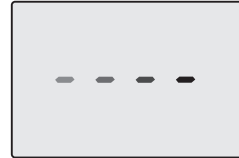
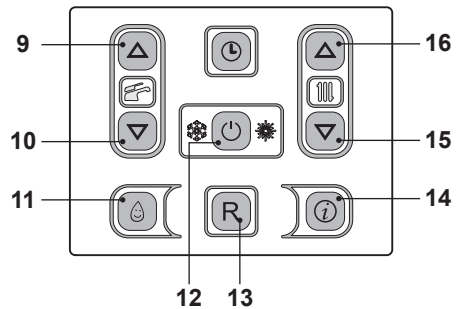

Fig. 7.4
Fig. 7.5
- Electrically power the boiler by switching on the double pole isolation switch. The LCD will display, the - - - - symbol (Fig. 7.4).
- Press the 12 key for 2 seconds until both  and  symbols appear on the display Fig. 7.5.
- Switch off the boiler by pressing the 12 (Fig. 7.5) key for 2 seconds until the **- - - -** symbol appears on the LCD display (Fig. 7.4).